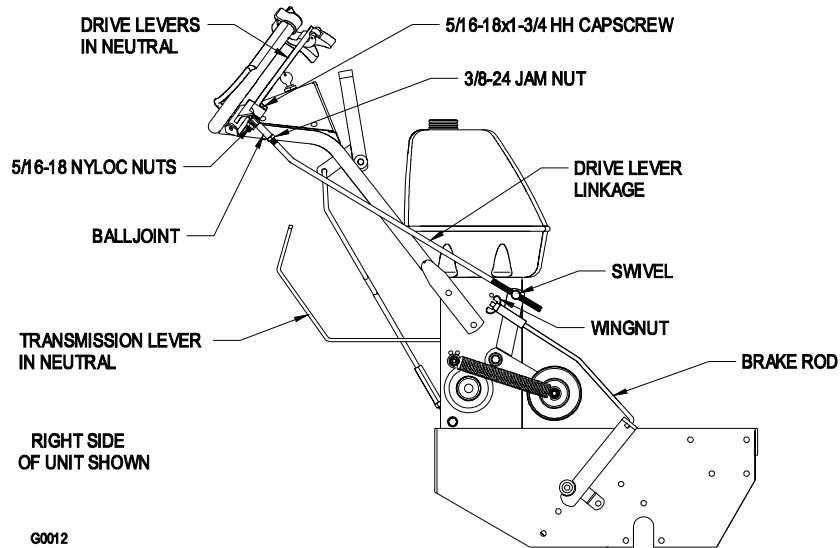

FIGURE 7
Thread in until the flat edge of the drive lever aligns with the bottom of the roller notch in the neutral lock/park brake latch when the cap screw is inserted through the hole in the drive lever and the hole in the ball joint. Secure with a nyloc nut. Tighten nyloc nut. Repeat for the other side. See figures 7 and 8.
- c) Adjust brakes by adjusting wingnut on the upper end of each brake rod. Tighten the wingnut until the brakes engage when the drive levers are squeezed enough allow the neutral lock/park brake latches to be placed into the "park brake" position. See Figure 7.